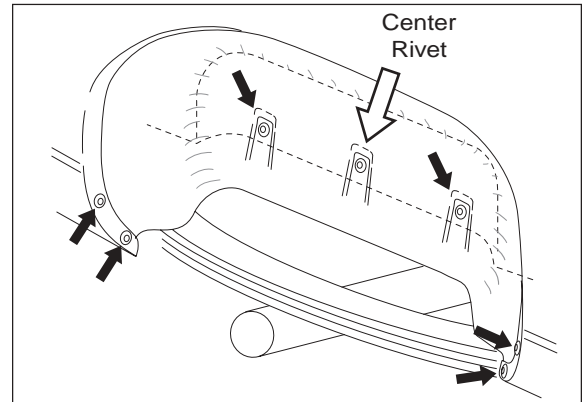
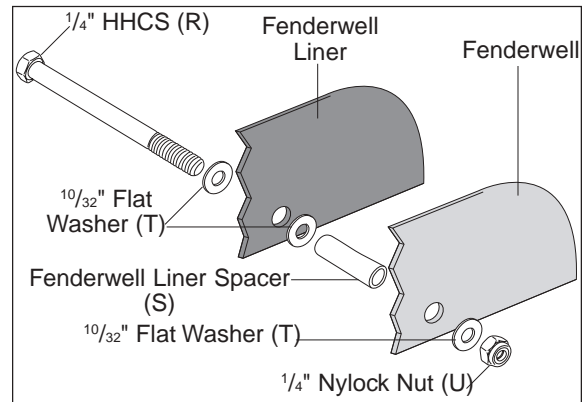

Figure 18
Figure 19
2. Place the spacer (S) between the fenderwell liner and the fenderwell at the center hole (Figure 18) in the fenderwell liner (the hole nearest the air spring). Attach using the 1/4" HHCS (R), the 10/32" flat washers (T), and 1/4" nylock nut (U) provided (Figure 19).